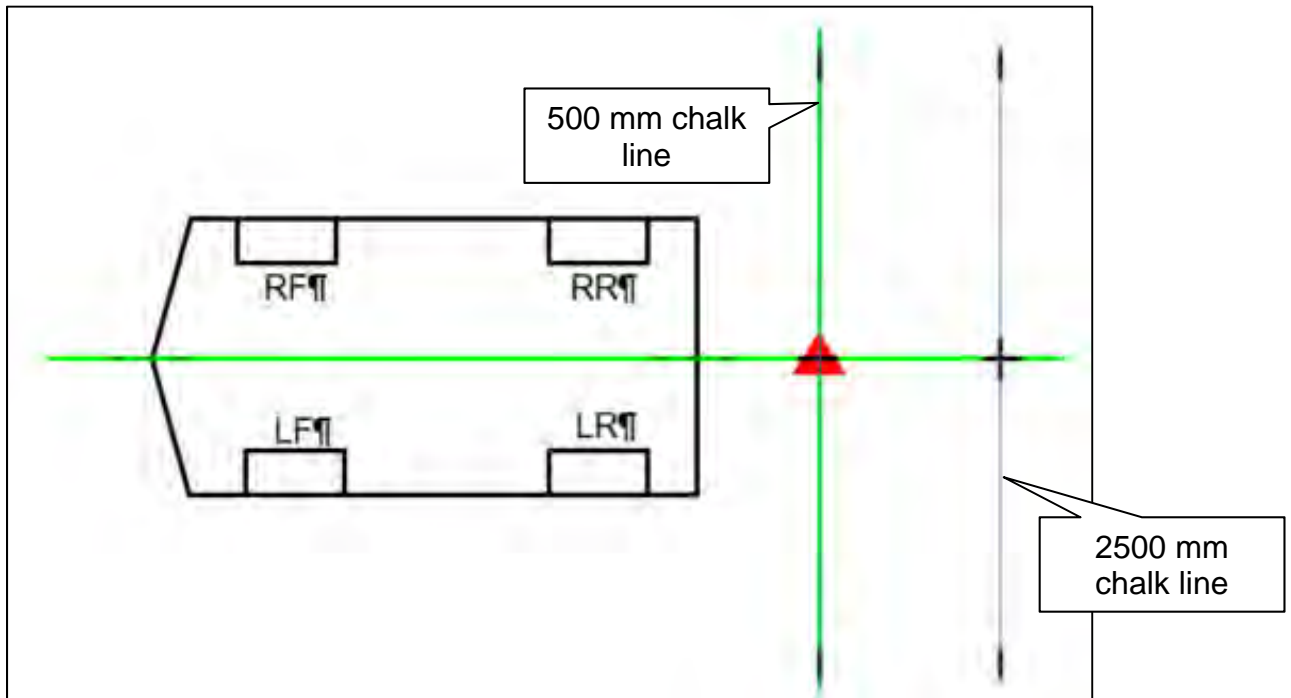

Figure 82
56. Place the laser level with both vertical lines activated, and align one laser line with the 500 mm chalk line and align the other laser line to the front and rear center point of the vehicle, as shown in Figure 82.